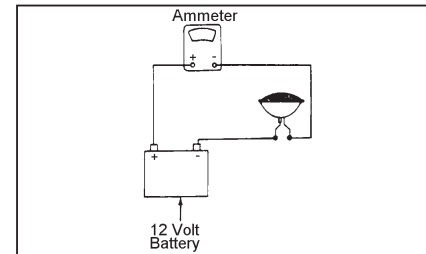

Figure 4
3. Used in a closed circuit. See **Figure 4**.